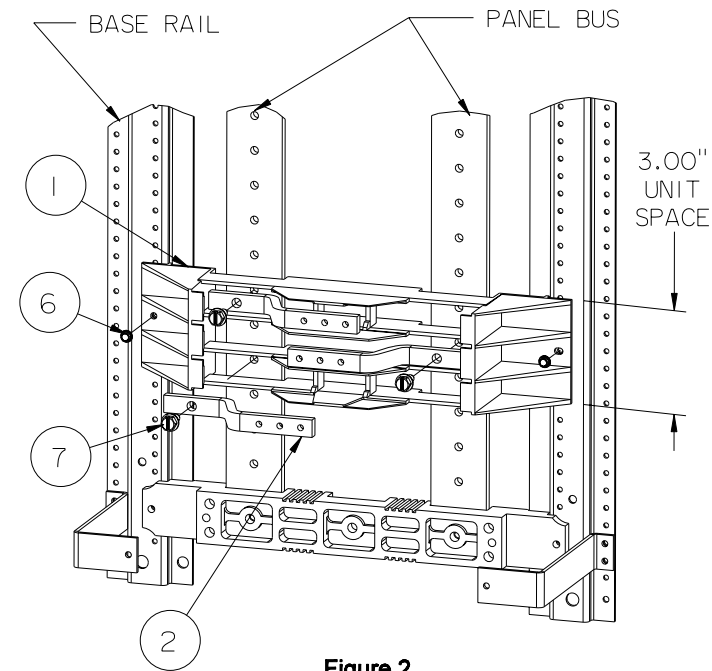

Figure 2
6. Refer to fig. 2. - Position the breaker mounting barrier (item 1) so that it fills the 3" unit space for the kit and fasten it to the base rails using two 8-32 screws (item 6). Install the three outer connectors (item 2) within the mounting barrier, alternating between the left and right panel bus. The left-right-left connector pattern shown in fig. 2 may be reversed if necessary to continue a connector pattern already in place in the panel. Fasten the connectors to the panel bus with three 1/4-20 X 5/8" screws. (item 7)